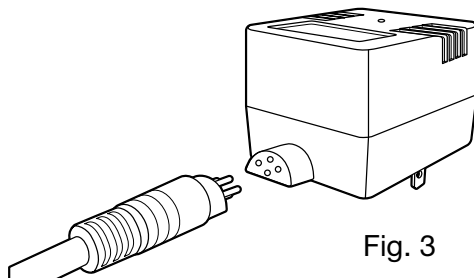

Fig. 3
4. Attach the ballast to the power cord. Use care to align the 4-pin plug properly. **DO NOT FORCE**. The 4-pin plug was designed to fit in only one orientation (Fig. 3).